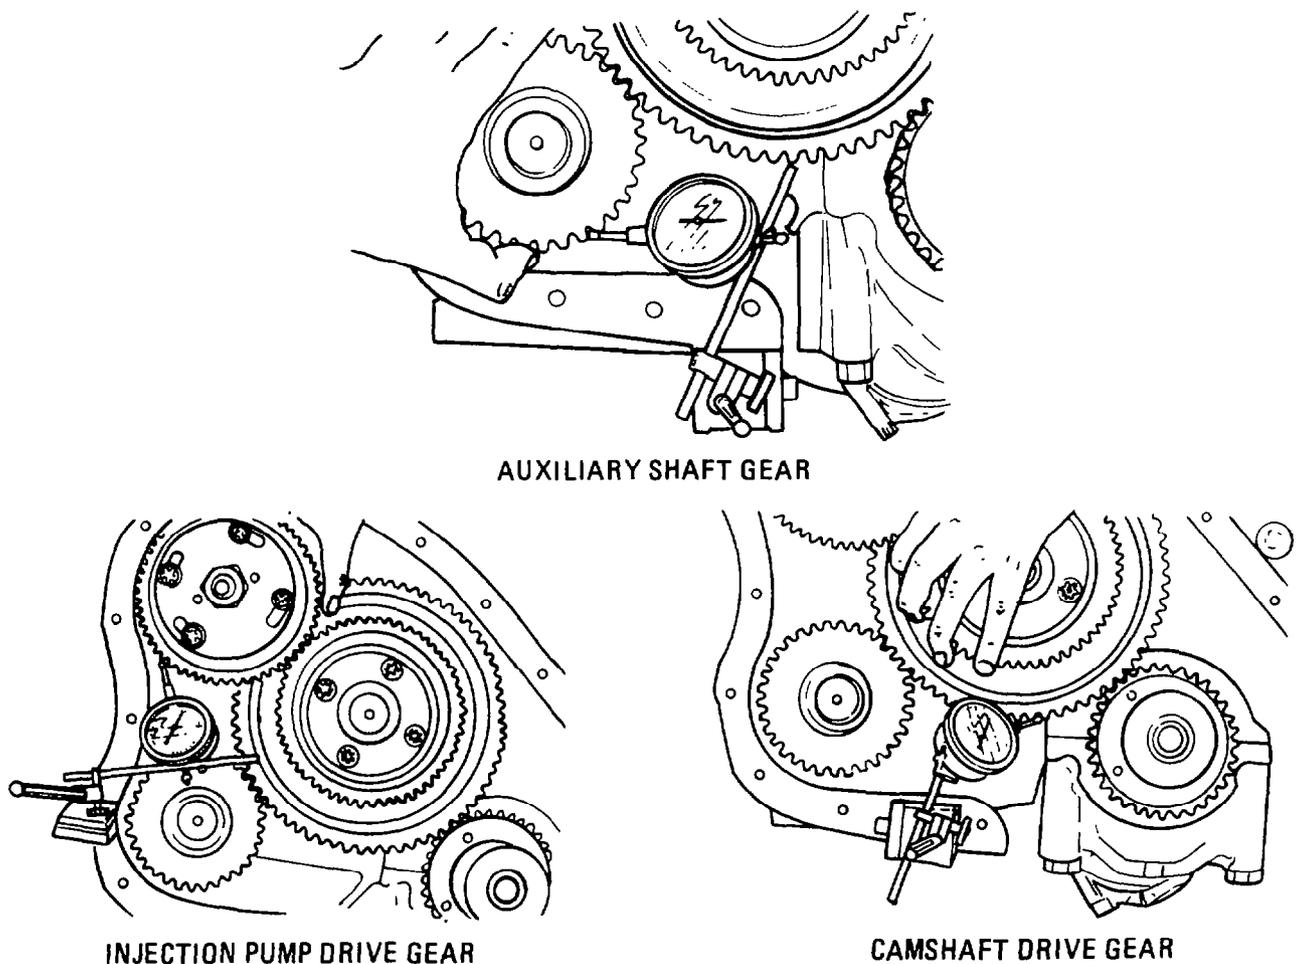

Fig. 70 — Backlash Measurements
- f. Rotate the engine in the stand until the deck is uppermost; use a dial indicator gauge to measure the backlash between the crankshaft and camshaft gears, between the camshaft and auxiliary drive gears and between the injection pump driving and driven gears as shown in fig. 70. Refer to Table 3 for backlash specifications.